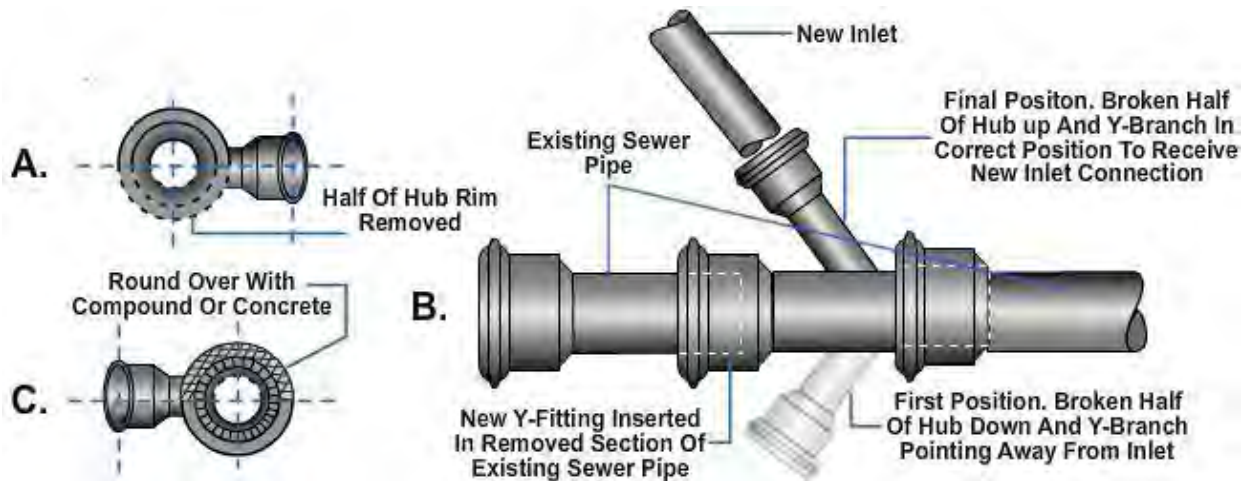

Figure 6-33 – Adding connections to an outside vitrified clay sewer pipe.
When the job calls for adding connections to an outside vitrified clay sewer line, here is one step-by-step method, shown in *Figure 6-33*.
2. Break half of the hub rim of the new Y-fitting, as shown in *Figure 6-33, View A*.
3. Insert the spigot end of the Y-fitting into the hub of the existing pipe. At the same time, place the remaining half of the hub end of the Y-fitting over the cut end of the existing pipe with the Y-branch pointing away from the new inlet. (See the first position of *Figure 6-33, View B*).
4. Rotate the Y-fitting, so the broken half of the hub is up and the Y-branch is in the correct position to receive the new inlet connection. (See the final position *Figure 6-33, View B*).
5. Pour the joint carefully; round over the broken half of the hub with plenty of concrete or mastic compound, as shown in *Figure 6-33, View C*.